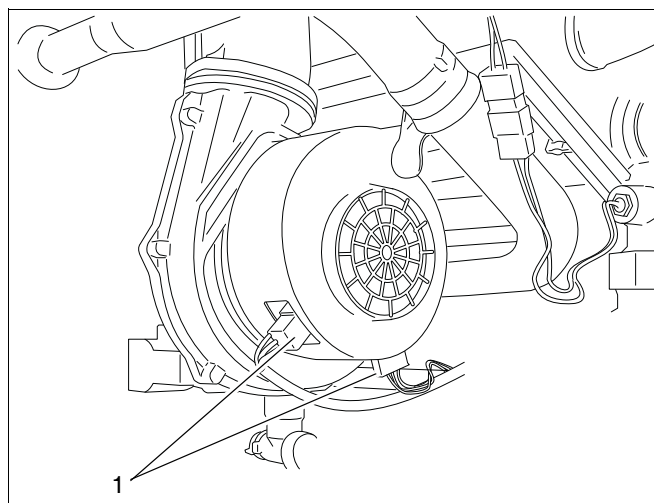

fig. 75 Disconnecting the cable plug from the fan unit
- Remove both cable plugs from the fan unit (see fig. 75, pos. 1).